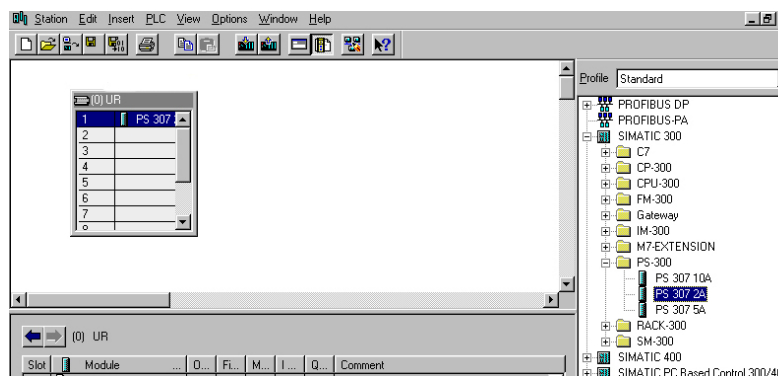

Figure 6-6 Select Type of Power Supply
11. Select the type of power supply by dragging and dropping the PSU type from the right-hand window into slot 1 of the table in the left-hand window (see Figure 6-6).